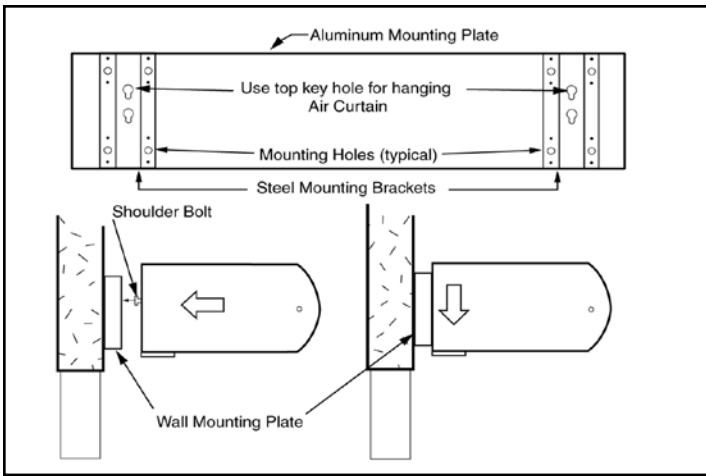

FIGURE 4 - Installing Air Door on Wall Mounting Plate
- I. There are two sets of keyhole slots on the wall mounting plate. In low overhead installations, the air door may be staged in the lower keyholes to provide clearance for electrical wiring and then moved to the higher key holes after completion. Raise the air door with the discharge opening facing down toward the floor. While holding the air door level, slide the heads of the shoulder bolts into the larger hole of the keyhole slots of the mounting plate. Lower the air door into place, keeping both ends level, allowing it to rest flush with the mounting plate. **See Figure 4.**